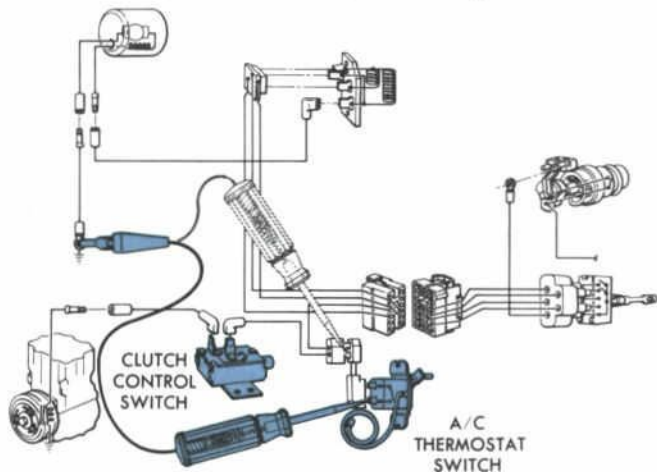

Fig. 15 — Testing Thermostatic Switch-To-Clutch Control Switch Lead
3. Next, if required, move the test probe to the connection between the thermostatic switch and the clutch switch (Fig. 15). A glowing light here tells you the lead between the switches is open or damaged, and you should repair or replace it. If the